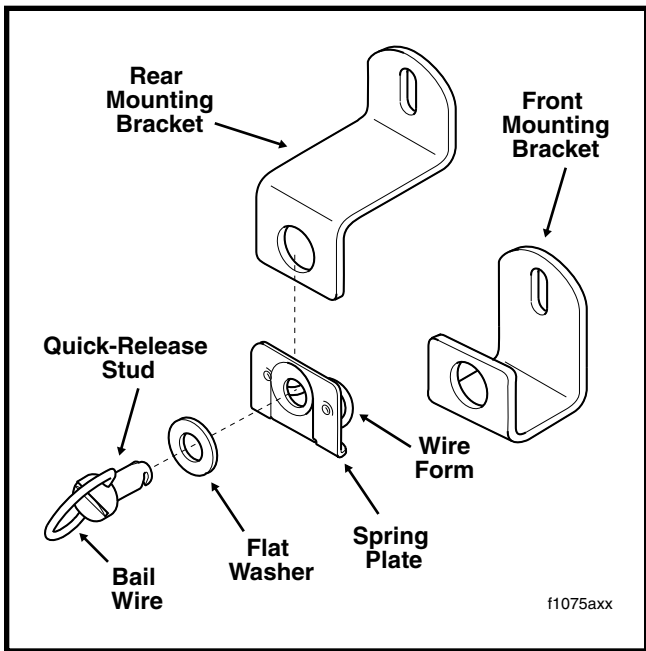

Figure 18. Saddlebag Quick-Release Fasteners
2. To free saddlebag from mounting brackets on saddlebag support and frame, grasp bail wire inside saddlebag and rotate each stud a full 1/4 turn in a counter-clockwise direction. See Figure 18.
1. Position saddlebag on vehicle. Verify that molded rubber insert at bottom of saddlebag fits snugly on lower saddlebag support rail. If saddlebag is not fully seated, loosen bolts securing mounting brackets to saddlebag support and frame. See Figure 18.